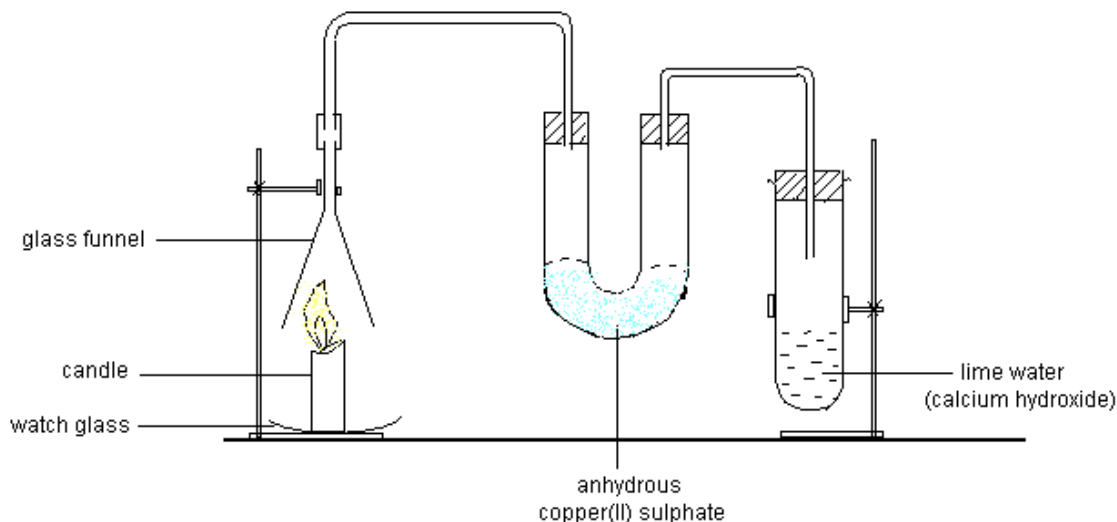

Figure 8.3: Showing products formed when a candle burns
1. Pack the U-tube with anhydrous copper(II) sulphate powder. What is the colour of anhydrous copper(II) sulphate?
3. Fit the glass funnel, test tube and glass tube as illustrated in Figure 8.3.
4. What effect does the liquid that forms when the candle burns have on anhydrous copper(II) sulphate.